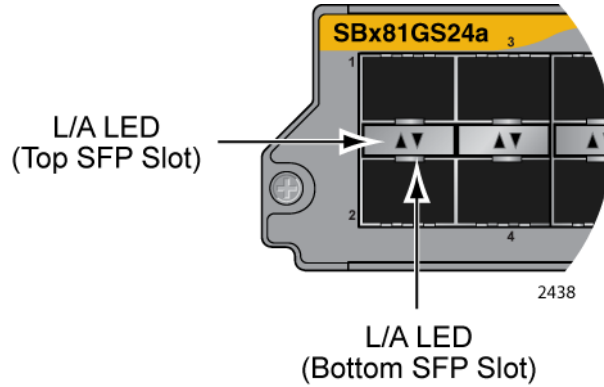

Figure 21. Port LEDs on the AT-SBx81GS24a SFP Line Card
**LEDs** The SFP slots on the AT-SBx81GS24a SFP Line Card have one LED each, as shown in Figure 21 on page 48 and described in Table 10 on page 48.